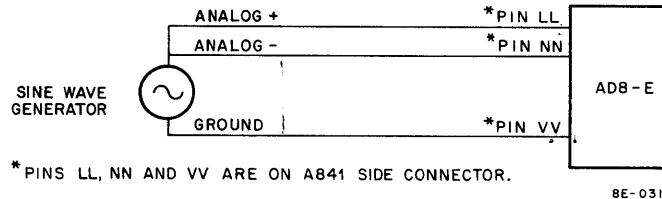

Figure 5-7 AD8-EA Common Mode Rejection Calibration Connection
1. Connect a sine wave generator to  $\pm$  analog input as shown in Figure 5-7.